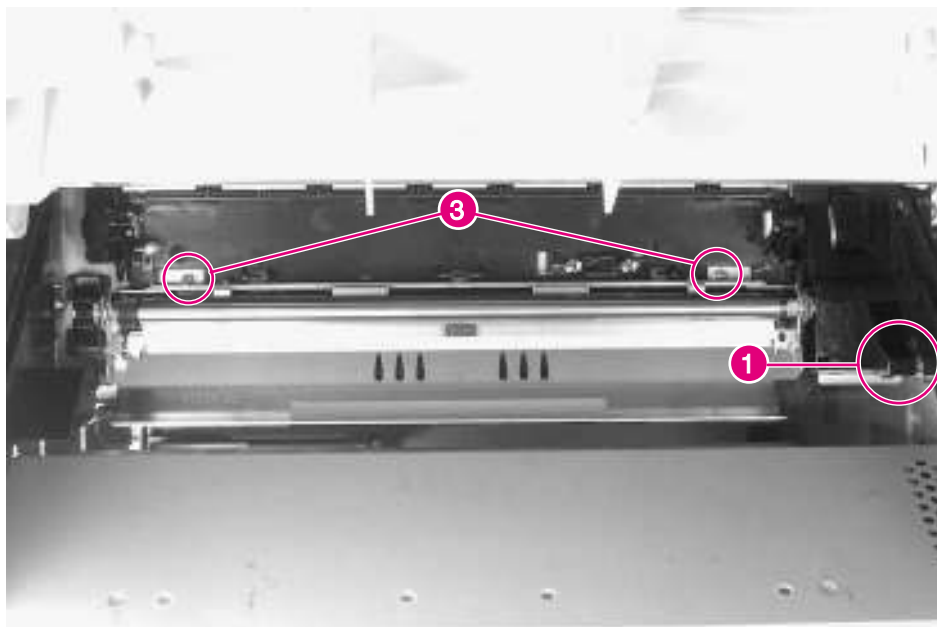

Figure 6-53 Registration Assembly (1 of 3)
- 3 Remove the Main Gear Train Shield. Release the retainer clip (figure 6-53, callout 1), and lift the forward end up.
- 4 Remove 2 screws at rear of assembly (figure 6-53, callout 3).